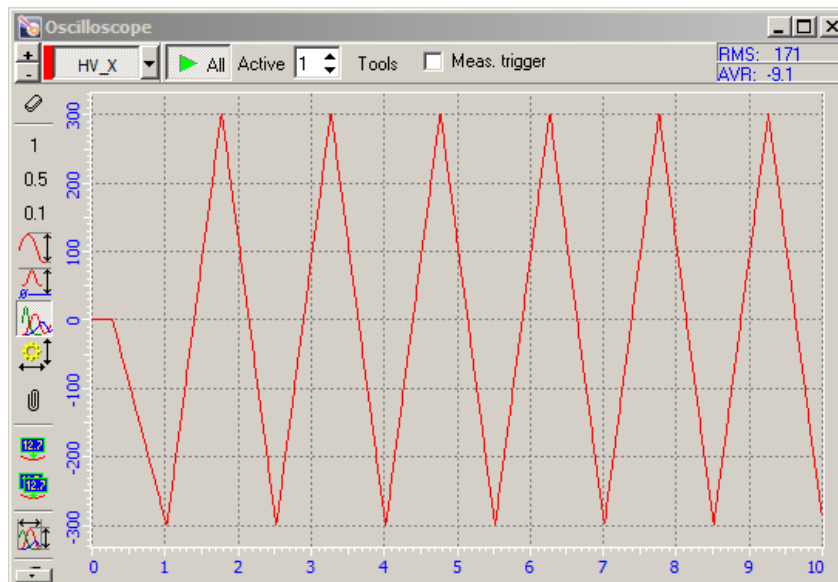

Fig. 1-9
- Click **Saw-tooth X**  button. At this triangular waveform voltage with the peak-to-peak amplitude of ± 300 V is applied to the X-section of the scanner (Fig. 1-9). The scanner displacement resulting from the application of this voltage will be registered by the sensors.